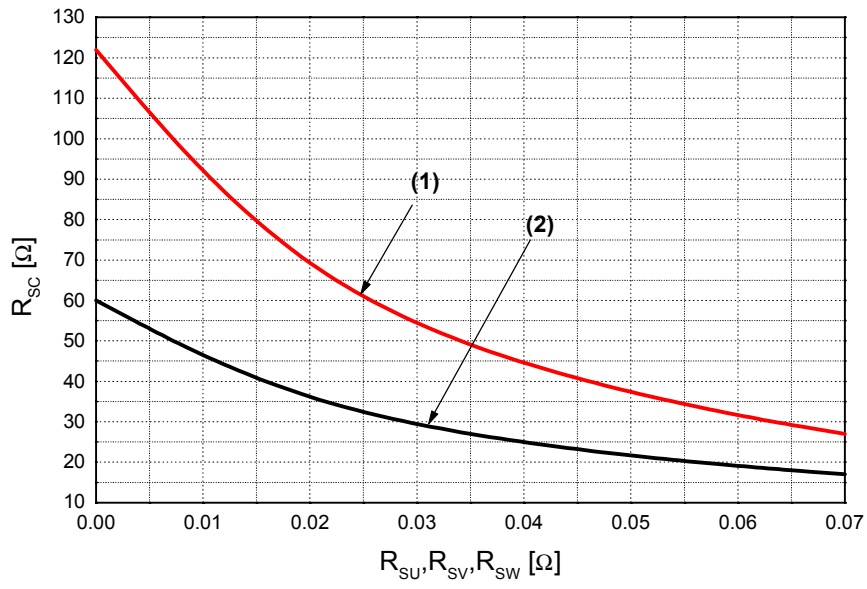

Fig. 6. R_{sc} Variation by change of Shunt Resistors (R_{SU}, R_{SV}, R_{SW}) for Short-Circuit Protection
- Short-circuit current protection is functioning only at the low-sides. It would be recommended that the value of the external sensing resistor (R_{SC}) should be selected around 60 Ω in order to make the SC trip-level of about 30A at the shunt resistors (R_{SU}, R_{SV}, R_{SW}) of 0Ω. For the detailed information about the relationship between the external sensing resistor (R_{SC}) and the shunt resistors (R_{SU}, R_{SV}, R_{SW}), please see Fig. 6.